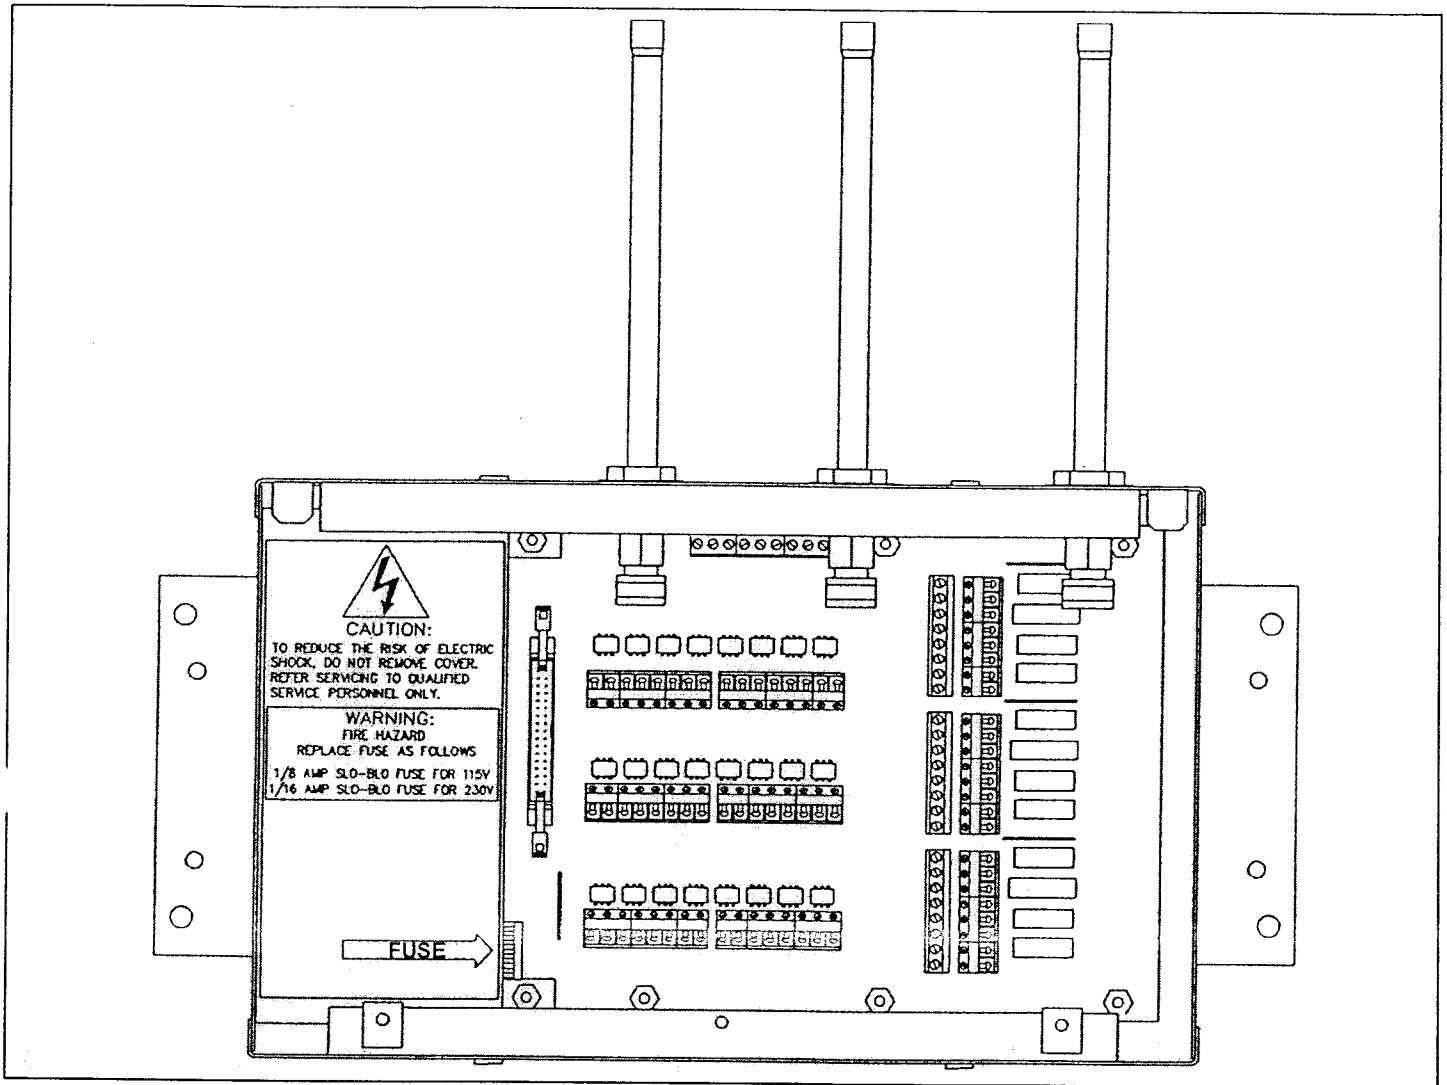

Figure 1 – Back Box with Pigtails
1.3.1.1 The Back Box (see Figure 1) contains the electronic “Mother Board”, step-down transformers, system power supply, connector to connect Front Panel and the terminal blocks to interface with external circuits.
1.3.1.2.1 The first type contains (see Figure 1) copper pigtails to which an installer directly connects gas or vacuum and has a Mother Board with electronic Dry Contact Outputs.
1.3.1.2.3 The third type contains copper pigtails to which an installer directly connects gas or vacuum (see Figure 1) and has a Mother Board that does not contain electronic Dry Contact Outputs.